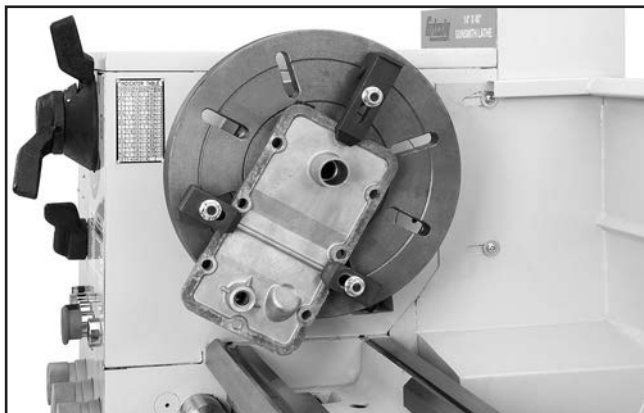

Figure 31. Workpiece properly clamped on the faceplate in a minimum of three locations (tailstock removed for clarity).
5. Clamp the workpiece at a minimum of three locations that are as close to being evenly spaced apart as possible as shown in **Figure 31**.